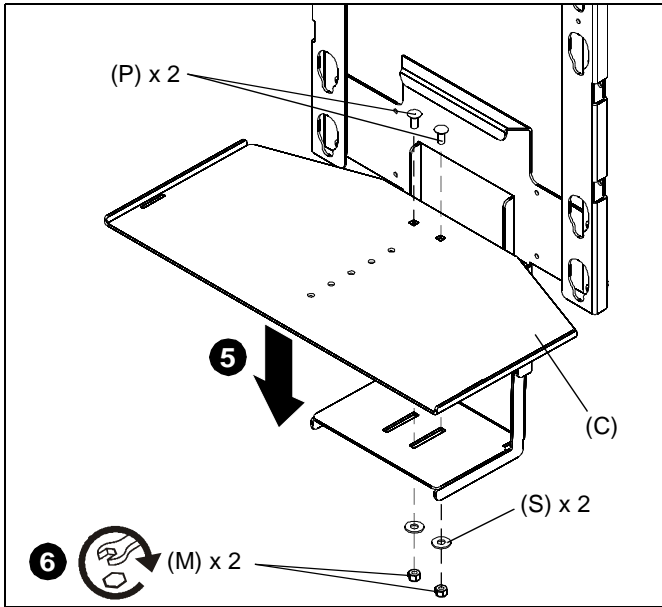

Figure 4
5. Lower shelf (C) to the assembly. (See Figure 4)
6. Attach shelf (C) using two 1/4-20 x 5/8" round head carriage bolts (P), two 1/4" flat washers (S) and two 1/4-20 nylon lock nuts (M). (See Figure 4)